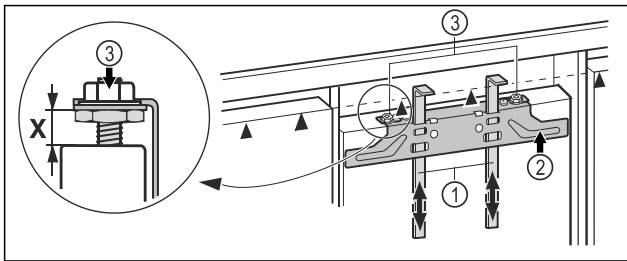

Fig. 44
- ▶ Push the assembly aids Fig. 44 (1) up to unit door height. Lower stop edge ▲ of the assembly aid = upper edge of the unit door to be assembled.
- ▶ Unscrew the fastening bar Fig. 44 (2) using the lock nuts Fig. 44 (3).